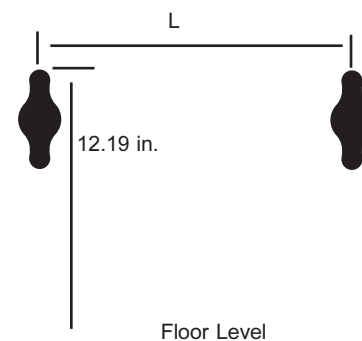

Figure 4. Keyslot Hanger Hole Locations
3. Mark the position of the keyslot hanger holes on the wall according to the dimensions given in Figure 4 for each unit size. Align the hole locations evenly.
2. Position and install the suspension rods or a suspension device (supplied by installer) according to the unit size dimensions in Figure 4 on page 15. Also refer to the weight range chart given in Table 1.
Install the bottom panel by placing the hinged end on the unit's hinged end (always at the return end of the unit). See Figure 4 on page 15 for keyslot hanger hole locations. Swing the panel upward into position. Tighten the panel to the unit with the fasteners provided. Do not over-tighten the fasteners.